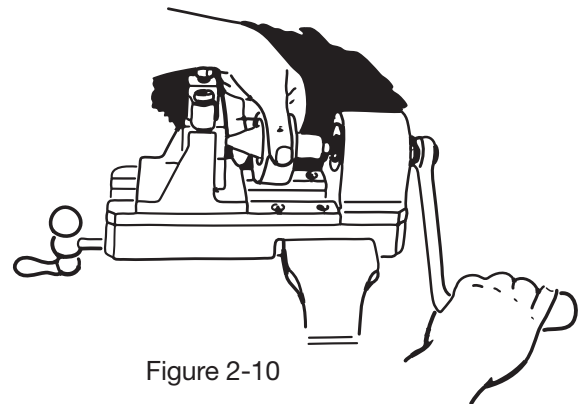

Figure 2-10
a. Insert flaring tool assembly into spindle. (See figure 2-10.) It will be noted that the shaft of this tool is threaded. Chips and foreign matter should be removed from threads and flaring cone surface. Engage with threads in spindle opening and hand tighten.